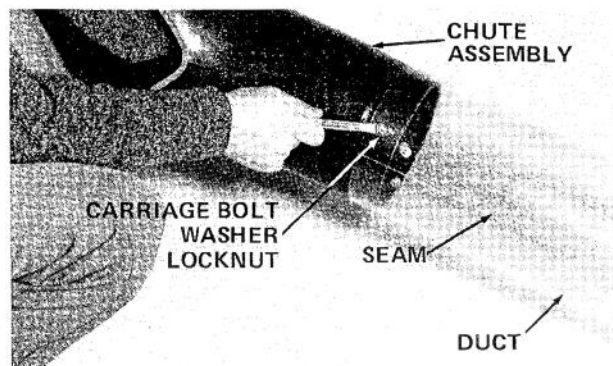

Figure 6
1. Sliding chute and duct together, line up holes so they can be secured (Fig. 6).
2. From inside of chute push carriage bolt through aligned holes and secure with washer and locknut. Repeat procedure on opposite side of assembly (Fig.6).